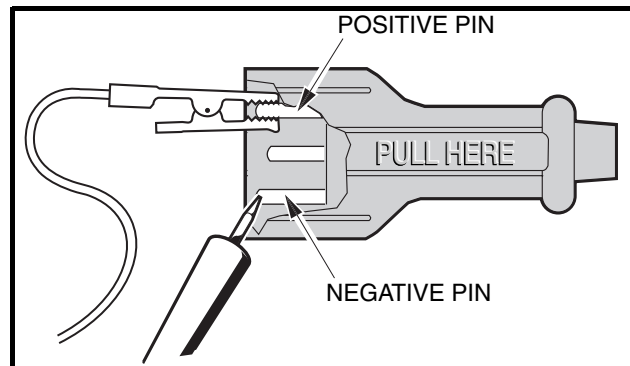

Figure 5-14 DC Plug Test – Probes Reversed
3. Reverse the test probes and check the DC plug again (**Figure 5-14, Page 5-20**). The circuit should show continuity in only one direction.